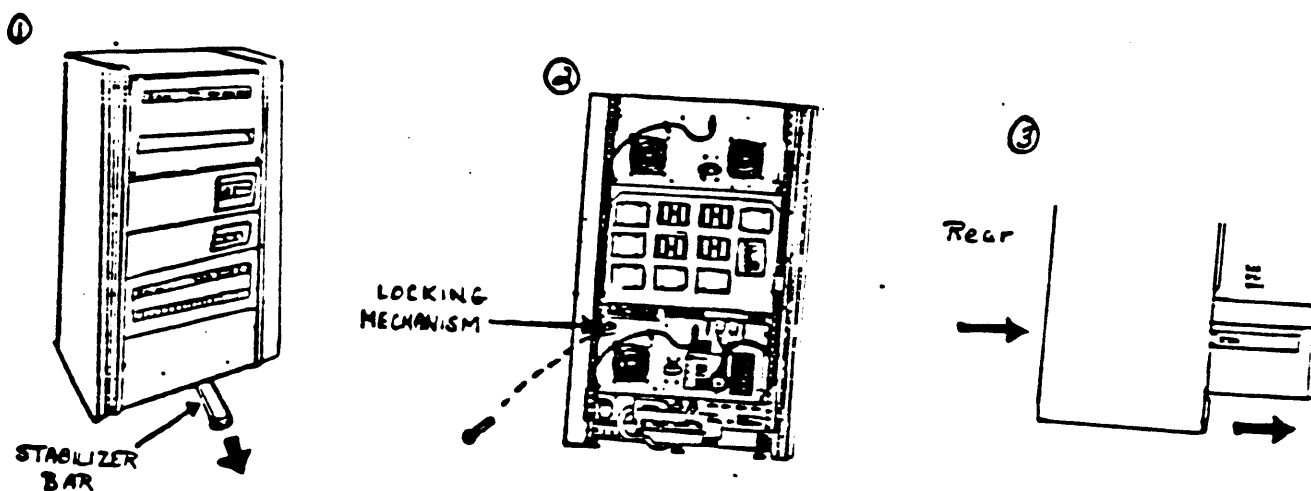

Figure 2-30. Unlocking the Positioner in the RA81 Disk Drive (1 of 3)
- o Lift up locking arms A (see Figure 2-30) on each side of the RA81 disk drive unit, and pull the unit forward until it is fully extended.